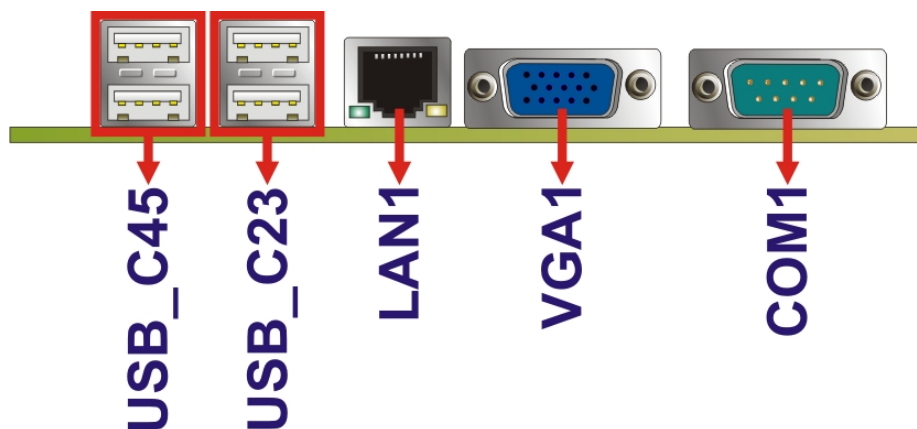

Figure 3-22: WAFER-945GSELVDS2 External Peripheral Interface Connector
- CN Location:** See Figure 3-22